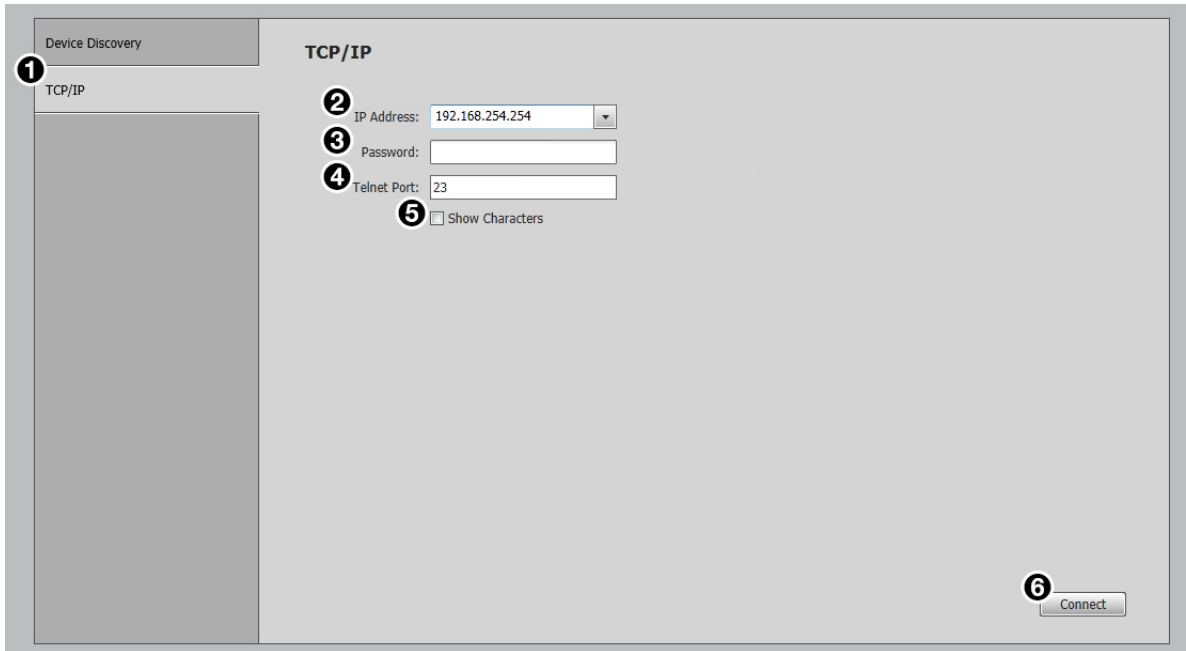

Figure 36. TCP/IP Panel
1. Click the **TCP / IP** tab (see figure 36, ❶).
2. In the **IP Address** field (❷), enter the IP address of the desired device.
3. If required, enter the device password in the **Password** field (❸).